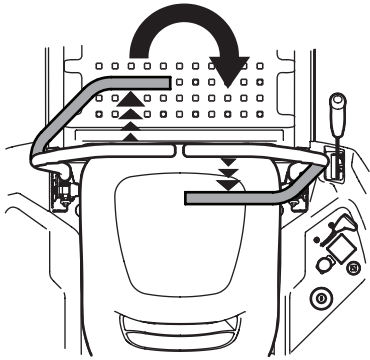

Figure 3-11
- To turn clockwise, move the left drive control lever forward while simultaneously moving the right drive control lever rearward. See Figure 3-11.